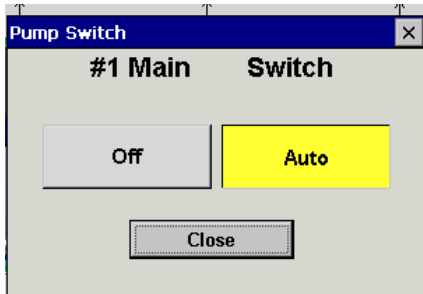

Figure 10: Pump Switch Screen
- a. By tapping , in either Idle or Auto Modes, an enhanced screen shown in **Figure 10** will appear to set individual pump status.